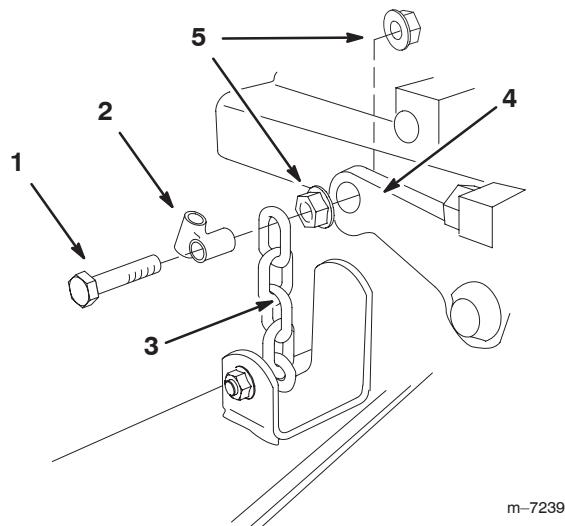

Figure 17
2. Install the 7/16 x 2-1/2 inch bolts through the adjuster mount with the cross tube nearest the bolt head (Fig. 17).
3. Install the top chain link next, then one flange nut with the flange side toward the lift arm (Fig. 17).